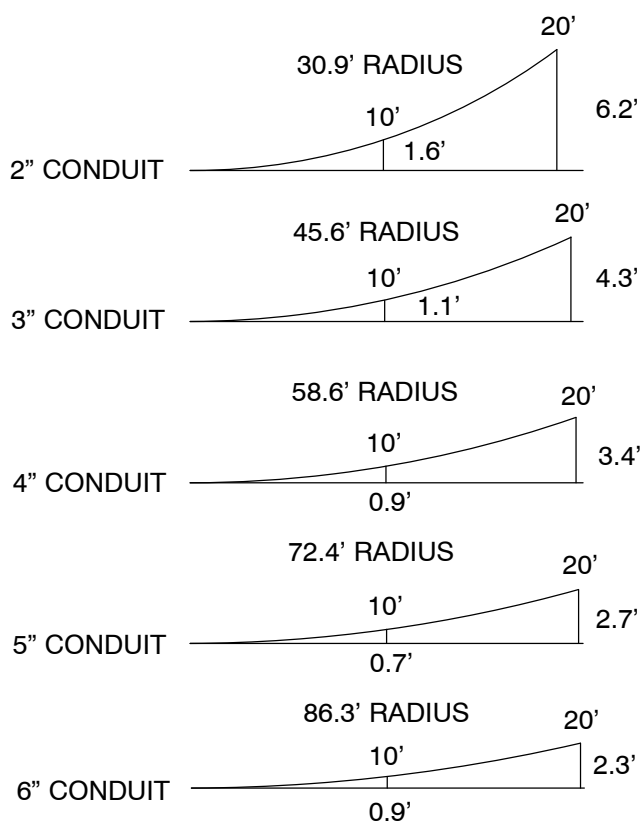
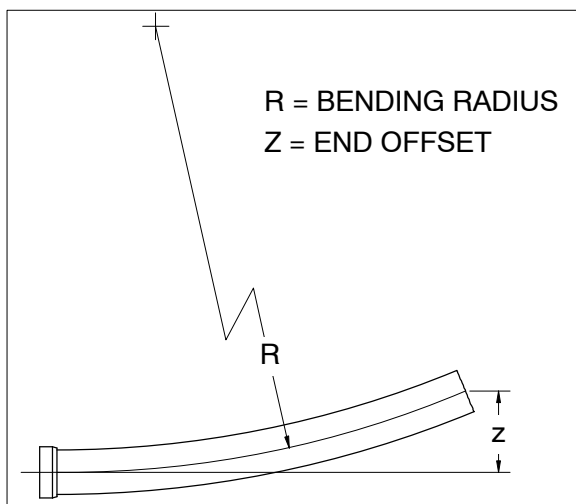

Figure 23
Figure 24
1. Longitudinal bending known as sweeping or roping refers to curving plastic conduits along their length for a certain amount without deformation. Figure 23 and Figure 24 show two important factors that limit the longitudinal bending of plastic conduits.